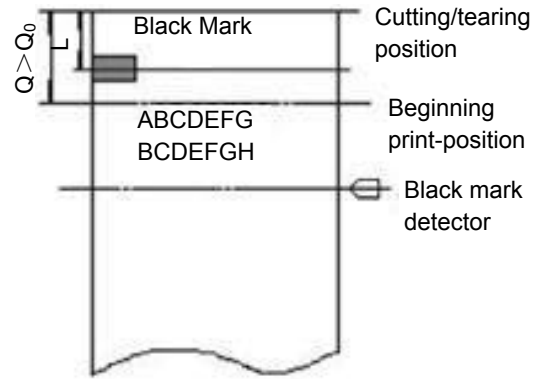

Figure 7-5
3. When the cutting/tearing position offset is not zero, or the distance Q between the beginning print-position and the cutting/tearing position is greater than the inherent mechanical value Q_0 of the printer (shown as figure 7-5), the calculation of the beginning print-position offset of “GS (F” command is shown as follows: